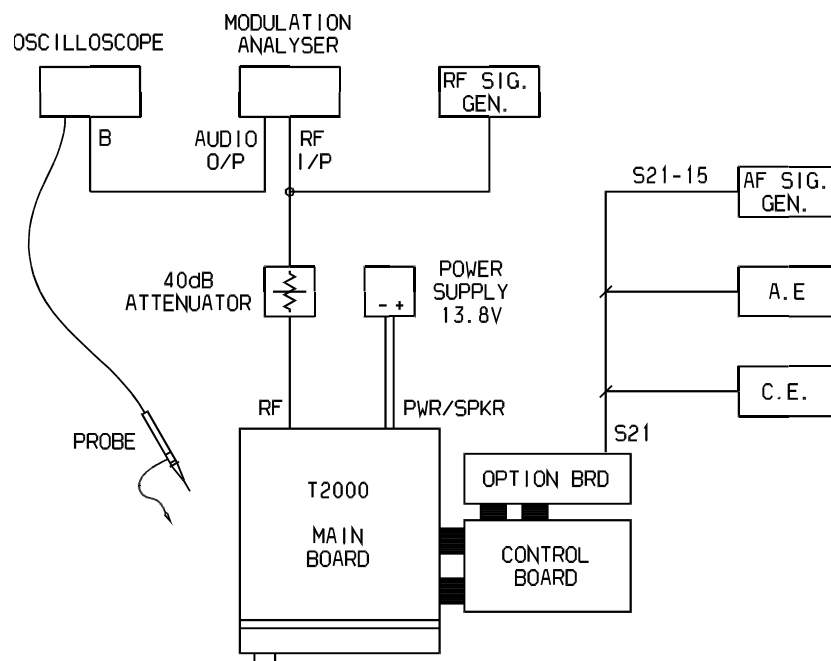
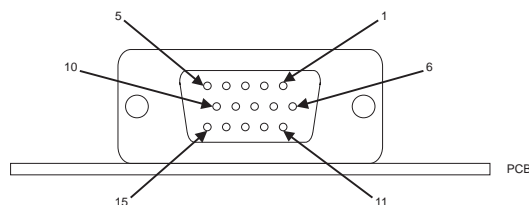

Figure 8.12.2 Test Equipment Set-Up
Figure 8.12.3 15 Way D-Range connector (S21)
- lead to connect radio to CE and AE, if required (refer to Figure 8.12.2 & Figure 8.12.3)